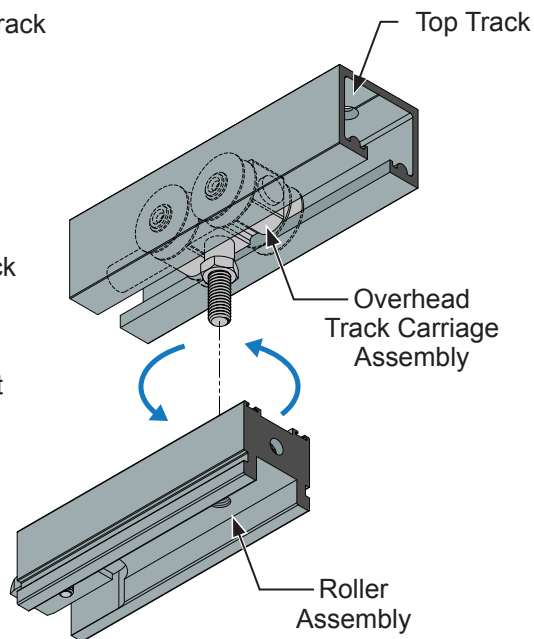

Fig. 2
2. Remove the roller assemblies by turning the roller assembly counter clockwise. **(Fig. 2)**